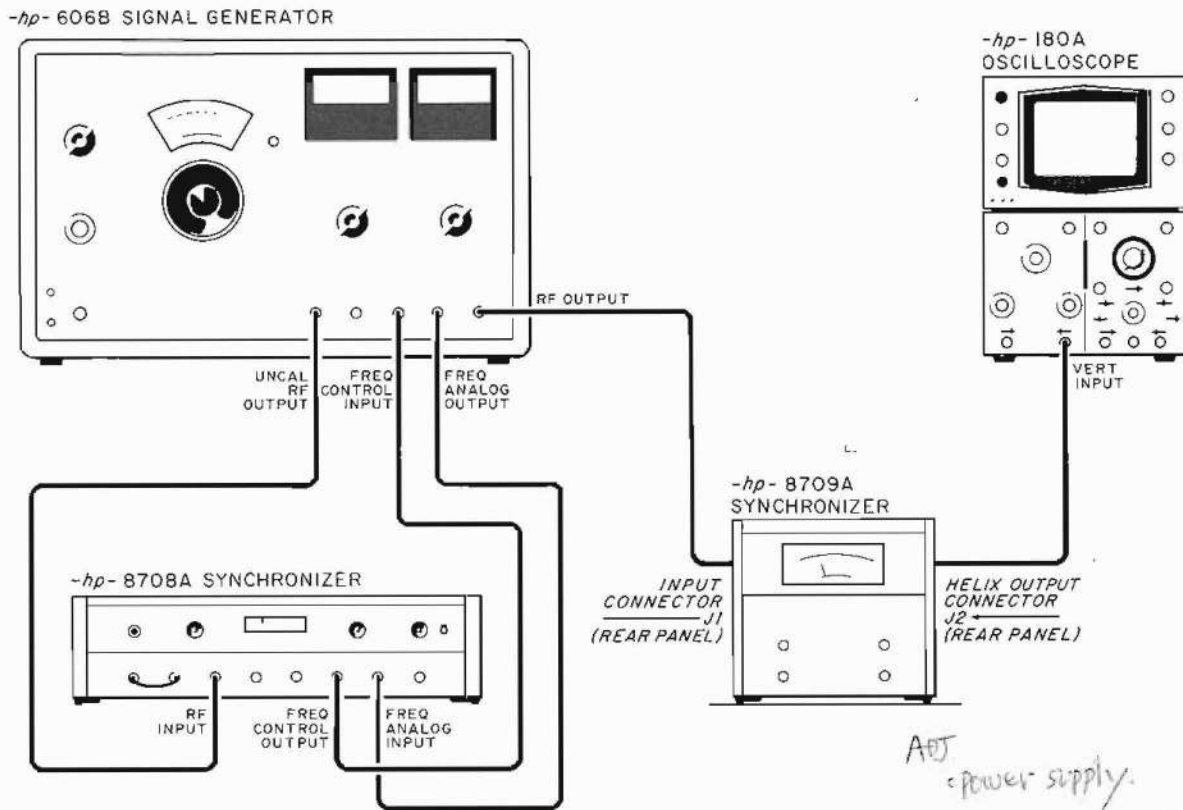

Figure 5-1. Performance Test Setup
5-6. Connect the 8709A to the test equipment as shown in Figure 5-1. Turn on power to all test equipment and allow the generators and oscillators to stabilize their frequencies (usually two hours or more are required). After the test equipment has stabilized, proceed as follows:
c. Connect the 8709A to the test equipment as shown in Figure 5-1.
- (1) 0.5 to 0.85 volt p-p on 1-4 GHz position;
- (2) 0.20 to 0.35 volt p-p on 4-12.4 GHz position
- (3) 0.08 to 0.15 volt p-p on 12.4-40 GHz position